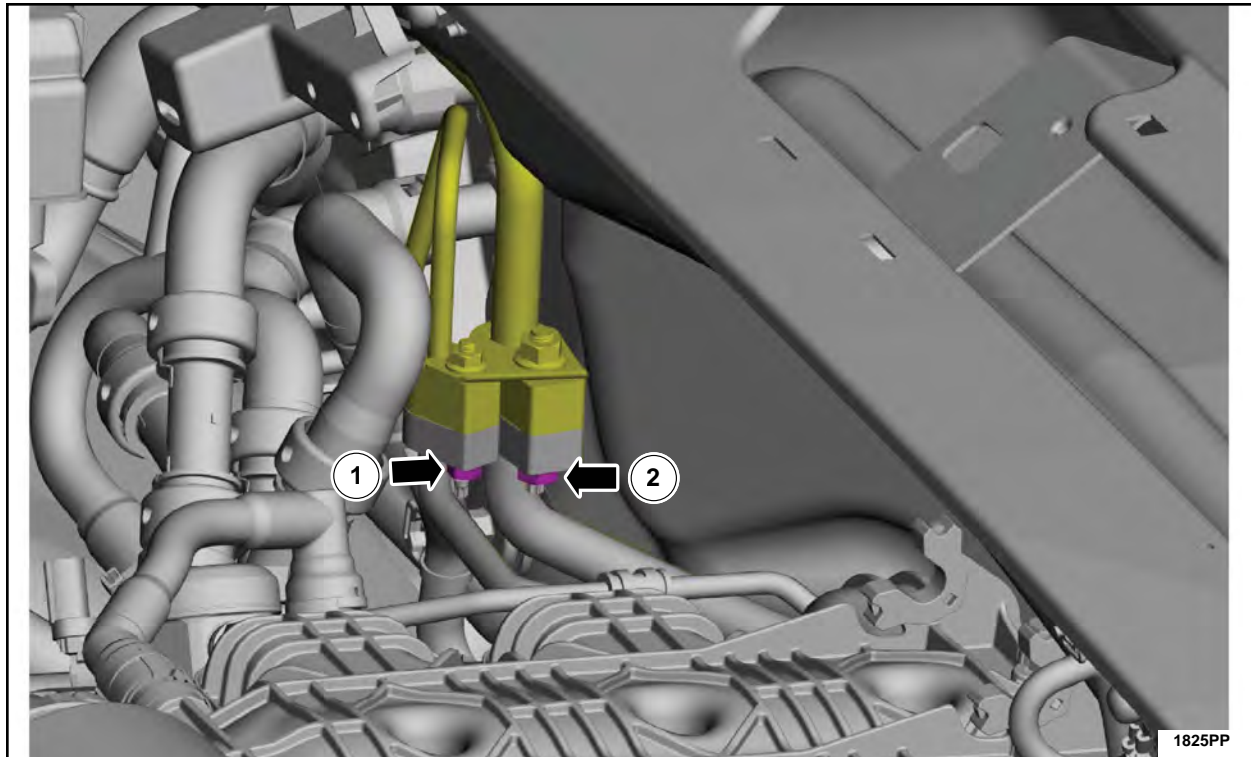

FIGURE 43
85. Install the thermostatic expansion valve manifold tube assembly fitting nuts to the rear evaporator inlet and outlet lines. See Figure 43.